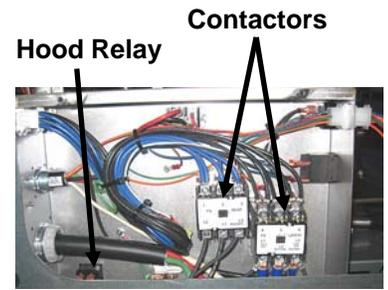

Figure 35
6. Remove the cover to expose the interior of the contactor box (see Figure 35).